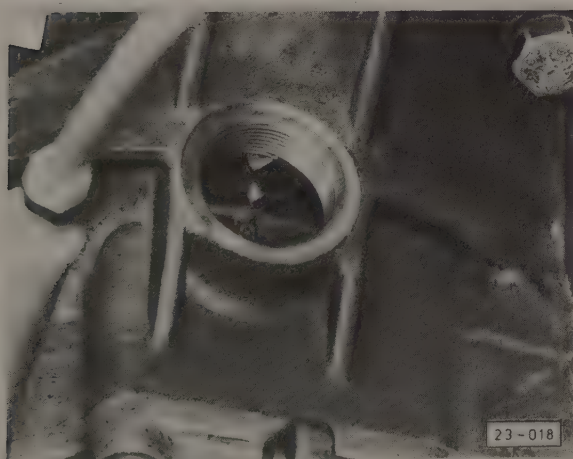

Fig. 5-18. TDC mark on flywheel aligned with pointer in hole in bellhousing (engine installed).
1. Using a socket on the front crankshaft bolt, hand-turn the engine clockwise until No. 1 cylinder is at TDC. Both valves should be closed and the TDC mark on the flywheel should be aligned, as shown in Fig. 5-18 if the engine is installed and in Fig. 5-19 if it is not installed.